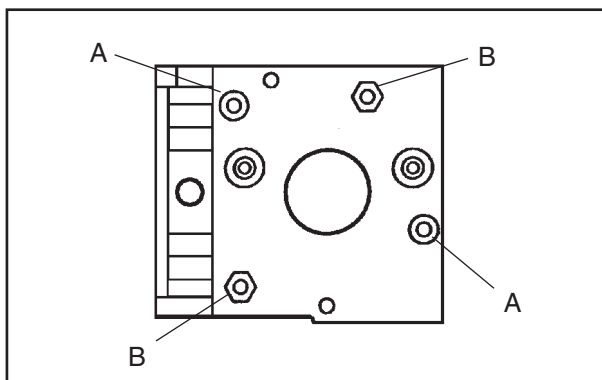

Figure 1. Mounting Holes
- a. For left side tubing entry and exit, use round mounting holes. (Labeled "A" in Figure 1.)
- b. For top tubing entry and exit, use hexagonal mounting holes. (Labeled "B" in Figure 1.)